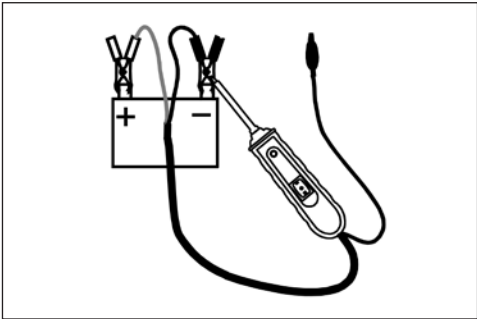

Fig.2
- If the LED indicator (4) does not light up, the clips are either not connected correctly, or the device is damaged.
6.2 Polarity Testing (Fig.2)